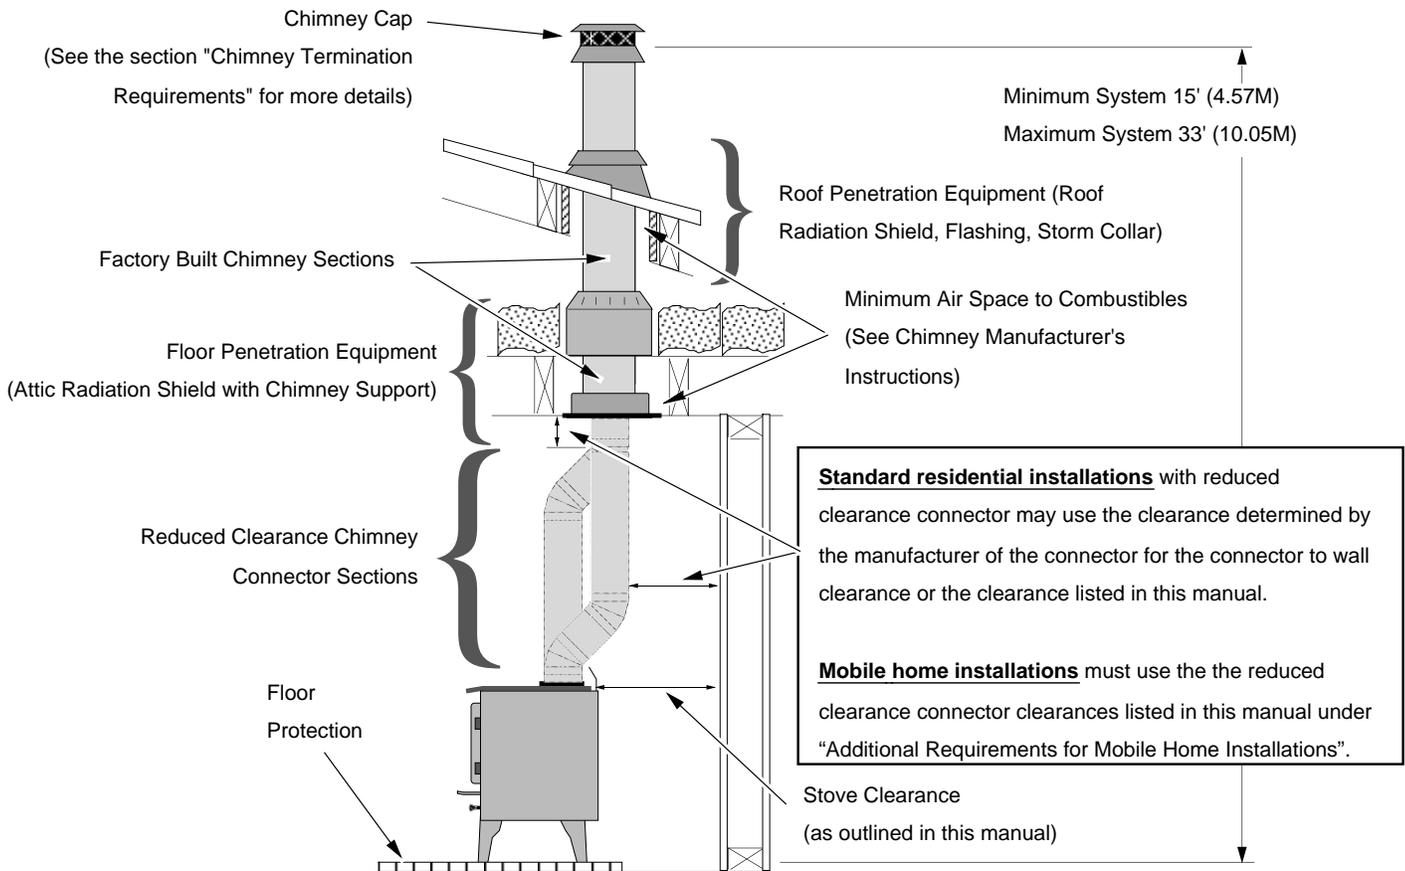
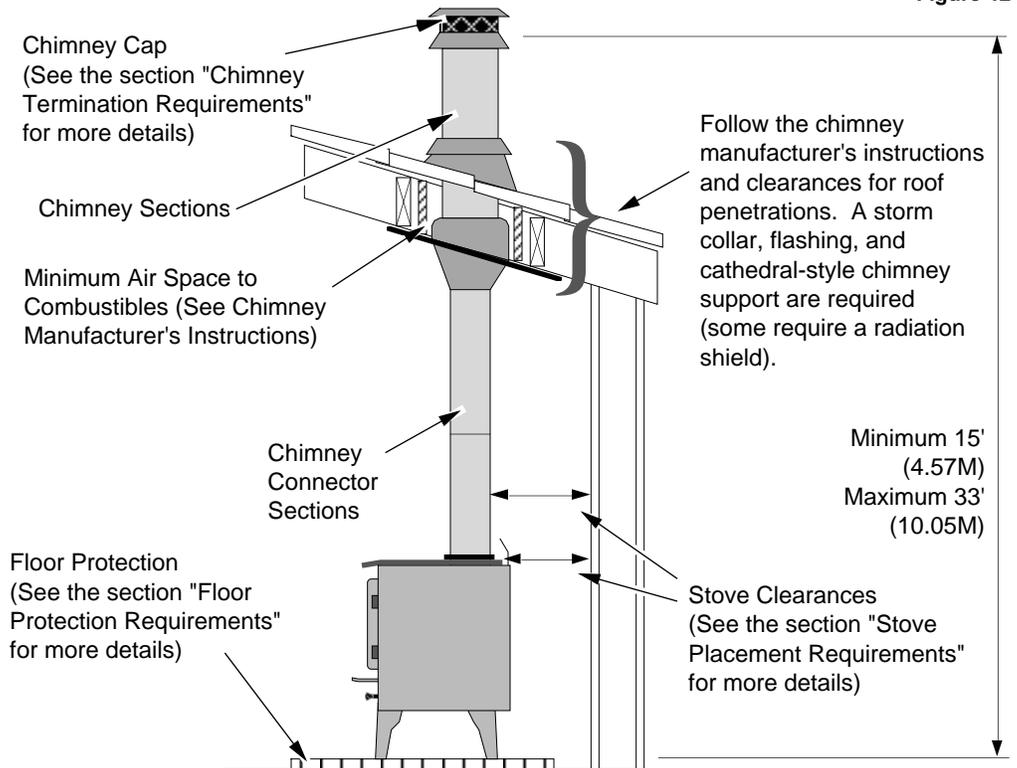

Figure 6
Figure 13
- Chimney connector is required from the flue collar of the stove to the factory-built chimney (see Figure 6) or masonry chimney (see Figures 13, 14, and 15).